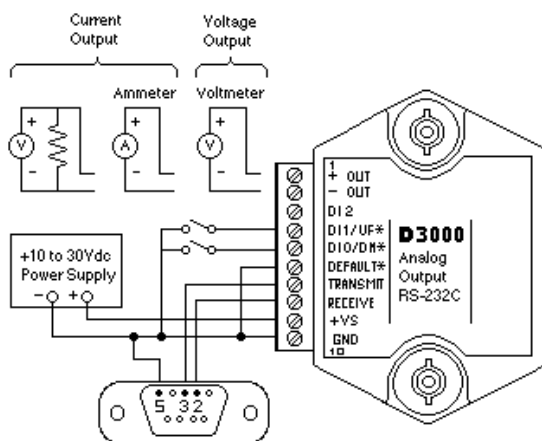

Figure A4.1. Connections to Converter
1. Connect the Converter to a serial port on your computer using the male, 9-pin, serial connector (DB9-M) on the analog output cable provided by SonTek (Figure A4.1).
3. Connect a power source (10 to 30 VDC) to the Converter as follows (Figure A4.1):
4. Connect terminals of the analog sensing/control unit to **+OUT** and **-OUT** (Figure A4.1).
5. Connect a power source (10 to 30 VDC) to the Converter as follows (Figure A4.1):